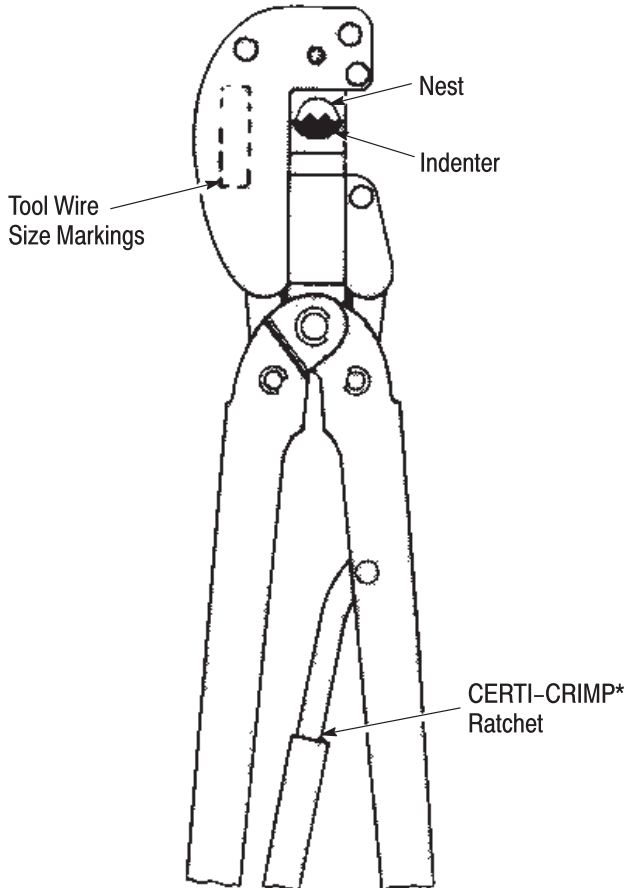

Figure 1
2. Open crimping dies by closing handles until CERTI-CRIMP ratchet releases. See Figure 1. Note that once the ratchet is engaged, handles cannot be opened again until they are fully closed.